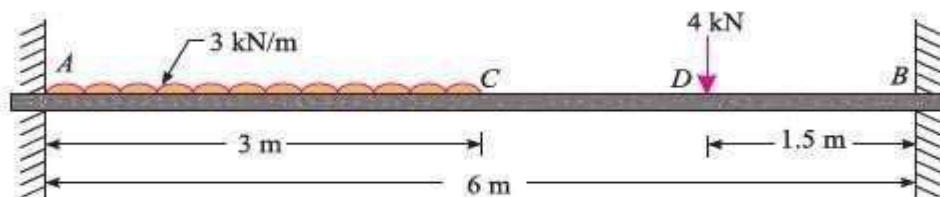

Fig. 24.7
**EXAMPLE 24.6.** A beam AB of uniform section and 6 m span is built-in at the ends. A uniformly distributed load of 3 kN/m runs over the left half of the span and there is in addition a concentrated load of 4 kN at right quarter as shown in Fig. 24.7.